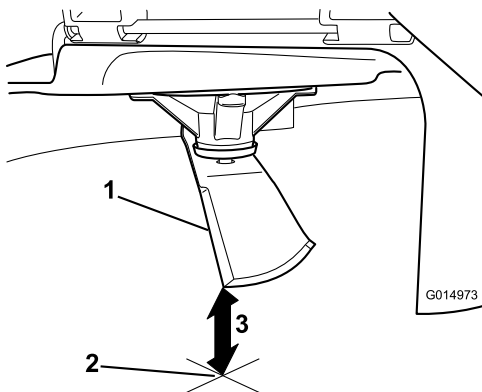

Figure 88
3. Measure from the tip of the blade to the flat surface (Figure 88).